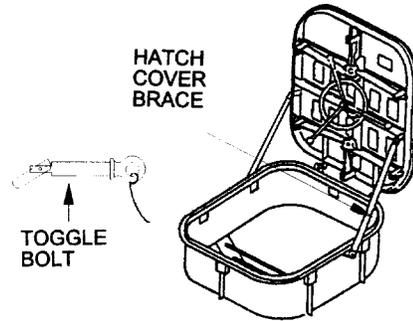

Figure 2-11. Hatch Cover Brace and Toggle Bolt
3. Ensure the toggle bolt is the right size to attach to the clips and that it has not been replaced by nuts and bolts. See figure 2-11.